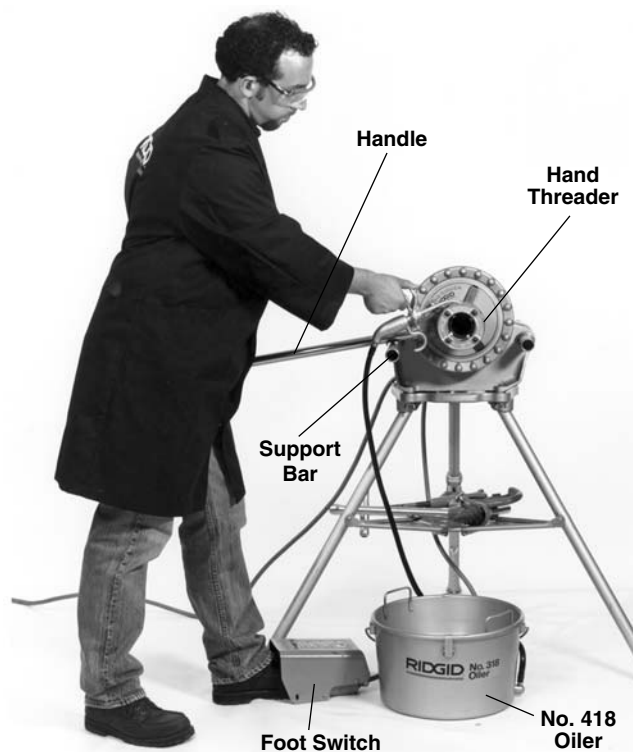

Figure 8 – Threading with Hand Threader
8. Position the foot switch so that the operator can safely control the machine, tools and workpiece. As shown in *Figure 8*, it should allow the operator to do the following:
3. Assume the correct operating posture (*Figure 8*). This will allow you to maintain proper balance and to safely keep control of the machine and tools.
9. Remove the right hand from the area of the die head and liberally oil the dies while the pipe is threaded (*Figure 8*).